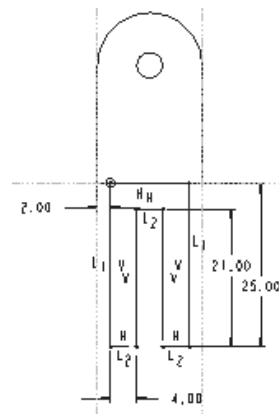

Figure 4-54 Sketch with dimensions and constraints of the third feature
7. Sketch the section for the third feature of the model and add constraints and dimensions to the sketch as shown in Figure 4-54.